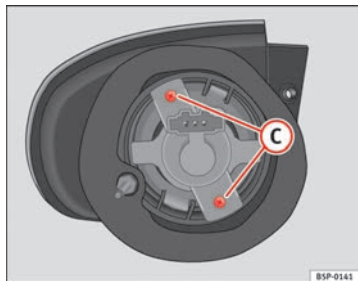

Fig. 198 Turn signal
- Unscrew the bolts ⇒ Fig. 198 **C** from the bulb holder and pull on this.
- Unscrew the bolts ⇒ Fig. 198 C from the bulb holder and pull on this.